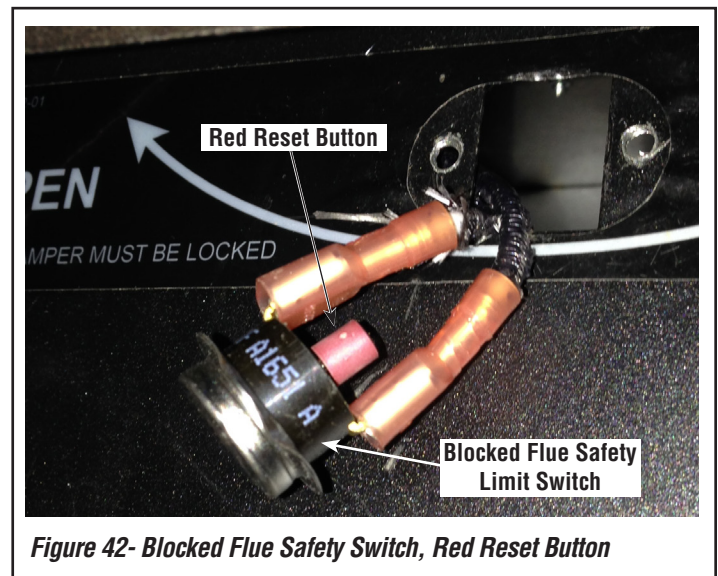

Figure 42- Blocked Flue Safety Switch, Red Reset Button
2. Press the red reset button on the switch (see **Figure 42**).